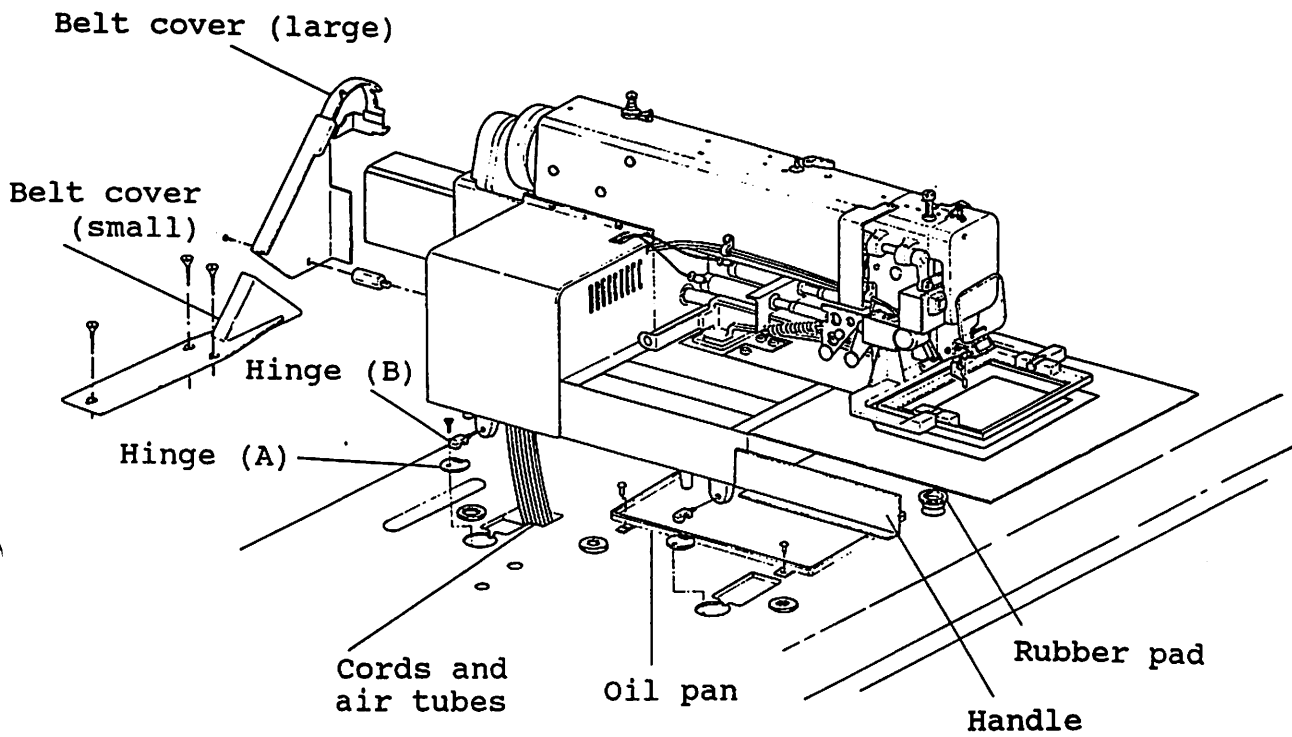

Fig. 4.4
4.2 Assembling the machine head (see Figs. 4.4, 4.5)